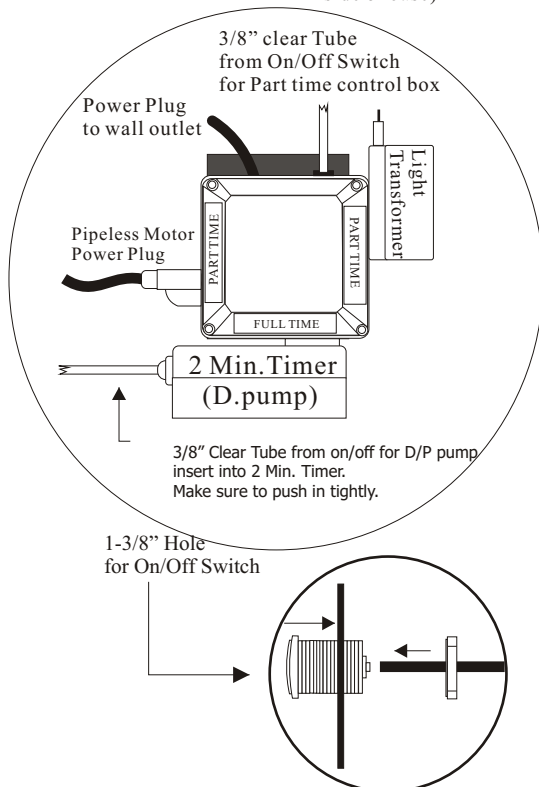

Figure 1
1. Fig.1 shows pivot into the hook - notice all wire/s are clear from hook
1. Make a hole ( size 1-3/8") for the On/Off switch as shown (see fig 1). Pre-drill required.